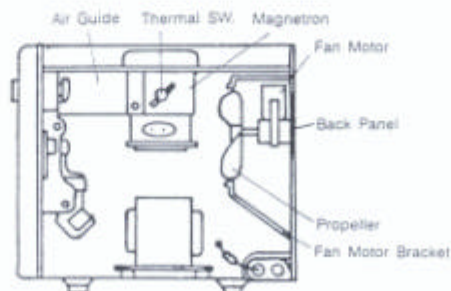

Fig. 9.1
When connecting 2 filament lead wires to the magnetron terminals, be sure to connect the lead wires in the correct position. The lead wire of high voltage transformer should be connected to "F terminal" and the lead wire from high voltage capacitor should be connected to "FA terminal". (See Fig. 9.1)
- d) Remove the fan motor by removing 2 screws holding it to the BACK PANEL. (Fig. 9.1)